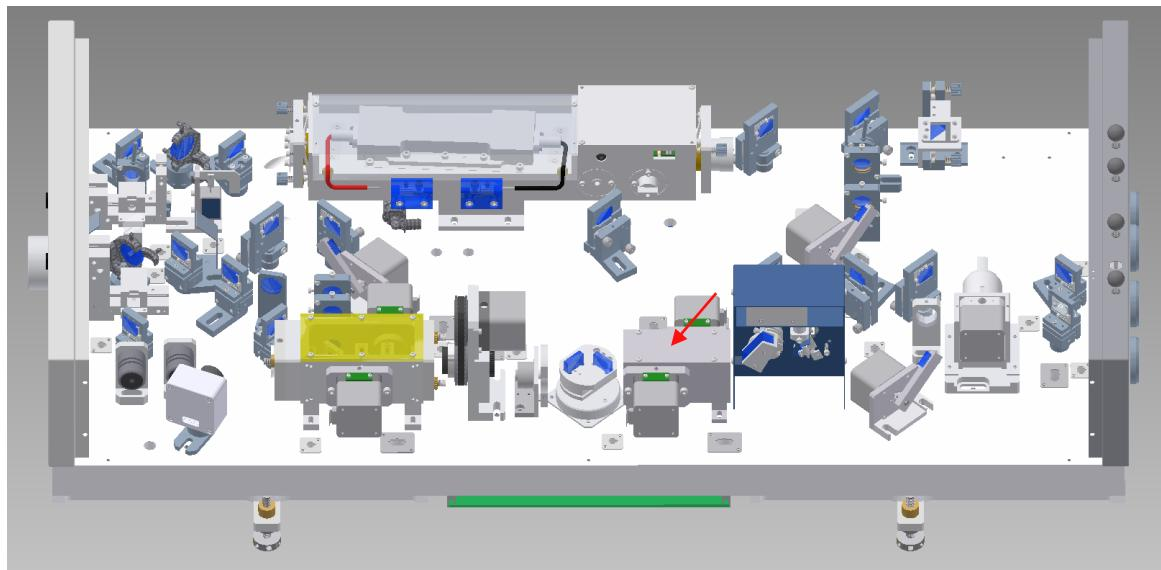

Figure 32 View of SH module within the NT342 system
In NT342 systems second harmonic unit (Figure 32) converts the OPO-emitted light (from 420 nm to > 2000 nm) to the second harmonic and extends the adjustable wavelength range down to 210 nm. There are two nonlinear crystals in SH module; each crystal works separately and is responsible for approximately half of the conversion range. When conversion occurs in one crystal the other one is acting just as a compensator to compensate beam walk off in the first crystal. Crystals are labeled as FSH (First Second Harmonic crystal) and SSH (Second Second harmonic crystal). Conversion in SH module is quite straightforward and strongly depends on OPO energy output. If OPO output is lower, then the SH output will decrease even more.
1. Remove the lid from SH module (Figure 32).